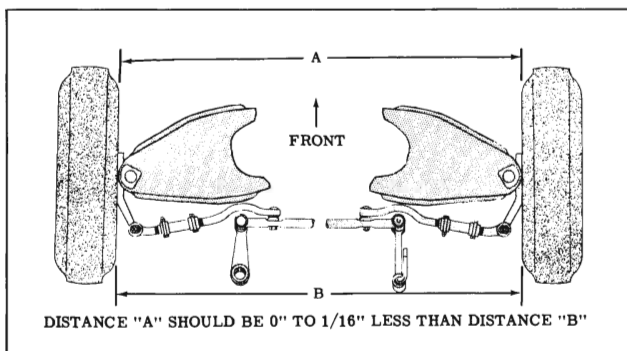

Fig. 5-28 Front Wheel Toe-In
3. TOE-IN (Fig. 5-28)
### TOE-IN ADJUSTMENT (0" to 1/16") (Fig. 5-28)